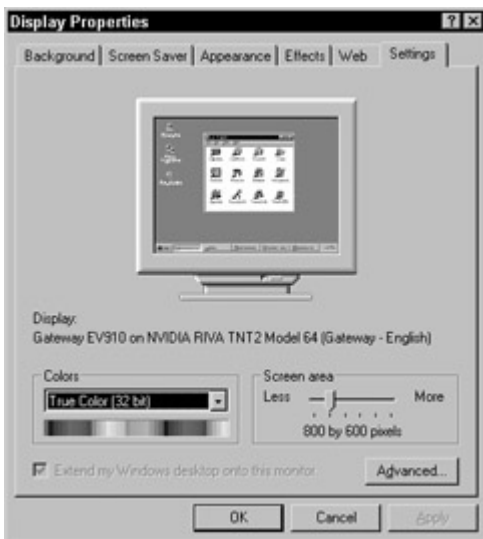

Figure 13-1: The Settings tab of the Display Properties window.
2. Select the Settings tab to display the Screen Area and Colors boxes, as shown in Figure 13-1.